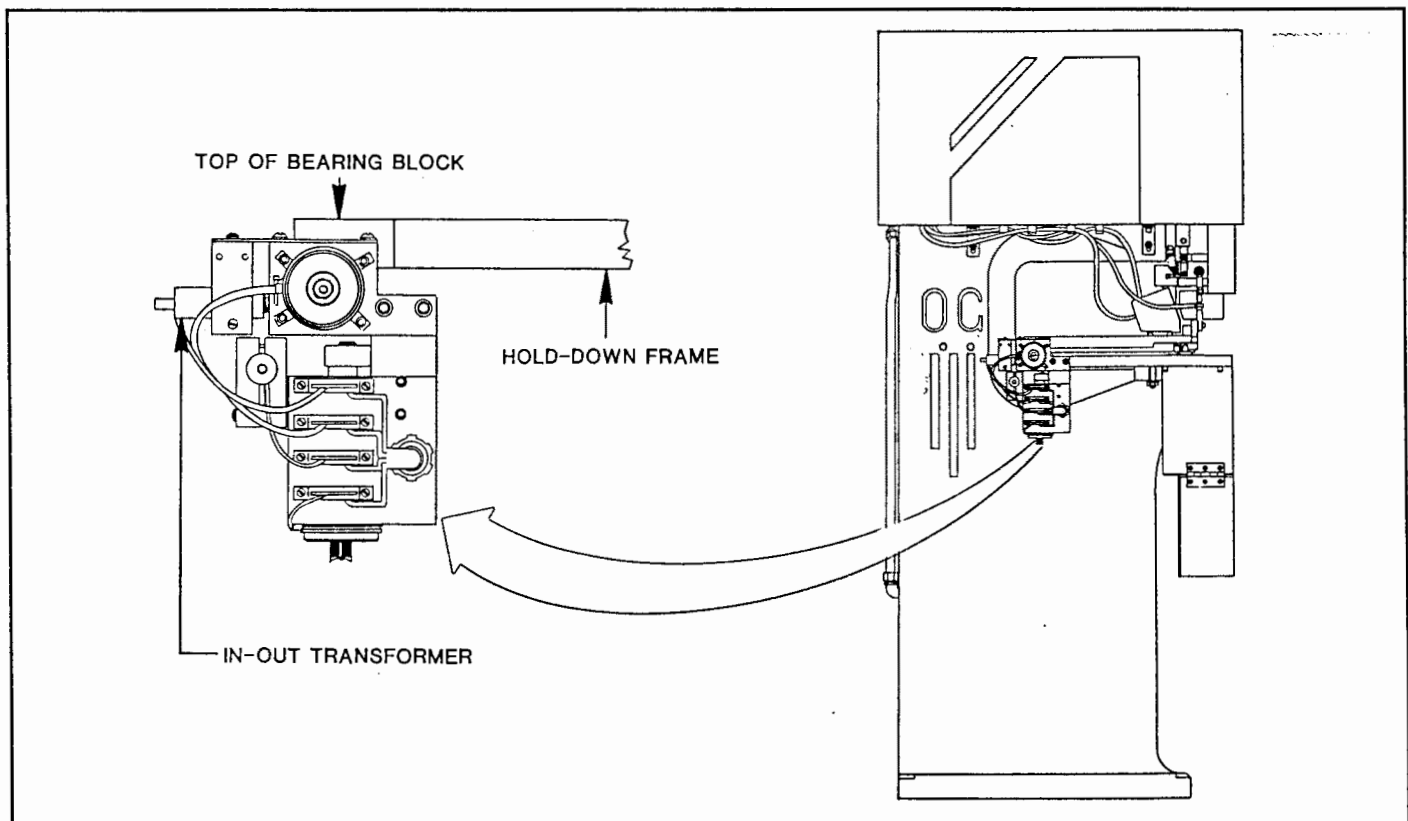

Figure 8.10 E
5. Reattach sponge tape (494) and board retaining bar (493) with board retaining bar screws (491) and lock washers (492).
9. Slide transformer in or out until top of bearing block on hold-down frame moves to its highest position as shown in Figure 8.10 E. When bearing block is in its highest position, tighten transformer clamp screw (521) with screwdriver.